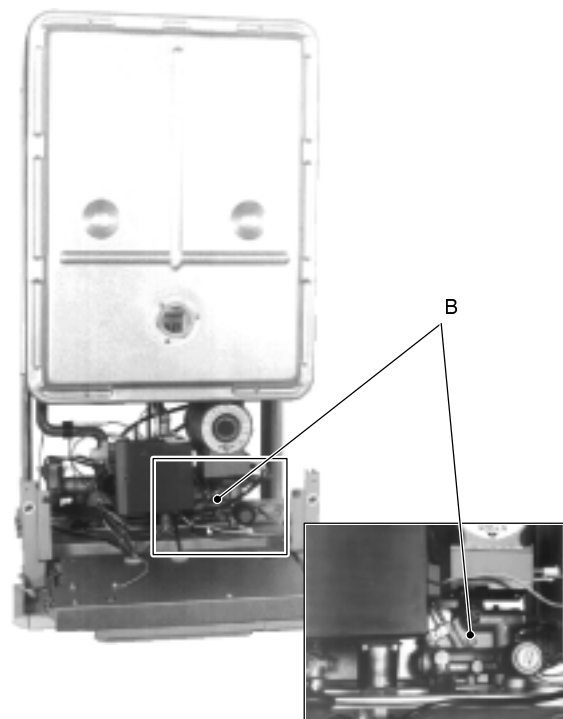

fig. 18
- 3 Completely unscrew the two screws B (in fig. 18 the right one is shown) which hold the exchanger to the brass deviator groups;